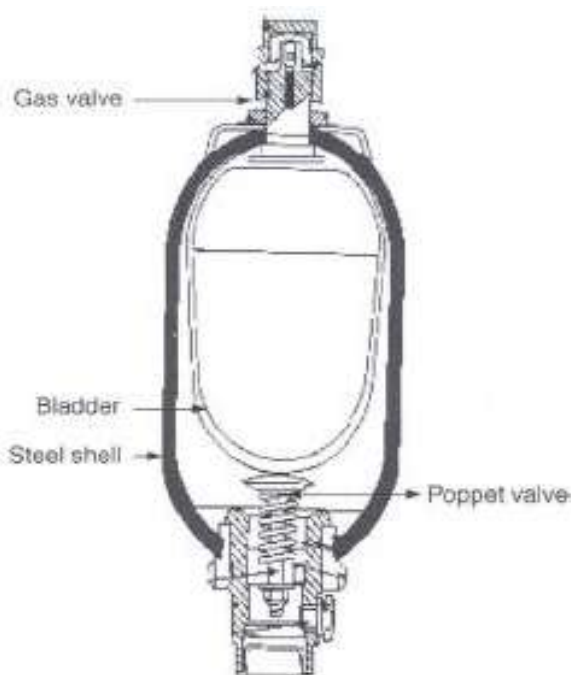

Figure 4
**b. Bag-Type Accumulator.** This accumulator Figure 4 consists of a seamless, high-pressure shell, cylindrical in shape, with domed ends and a synthetic rubber bag that separates the liquid and gas (usually nitrogen) within the accumulator. The bag is fully enclosed in the upper end of a shell. The gas system contains a high-pressure gas valve. The bottom end of the shell is sealed with a special plug assembly containing a liquid port and a safety feature that makes it impossible to disassemble the accumulator with pressure in the system. The bag is larger at the top and tapers to a smaller diameter at the bottom. As the pump forces liquid into the accumulator shell, the liquid presses against the bag, reduces its volume, and increases the pressure, which is then available to do work[5].